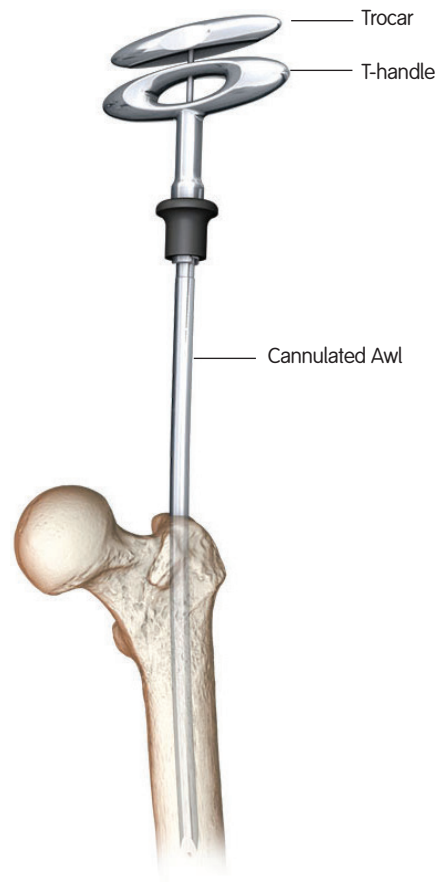

Figure 11
3. Introduce the awl into the proximal femur at the designated entry point until it is below the level of the lesser trochanter\* (Figure 11).